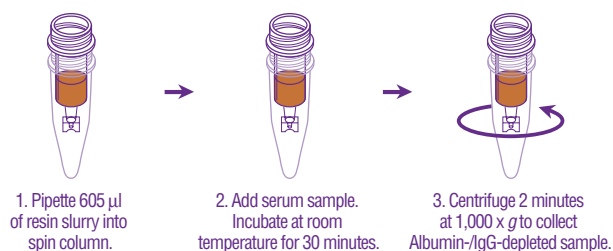

Figure 15. Protocol for the ProteoSeek™ Antibody-Based Albumin/IgG Removal Kit (Product # 89876).
- **Excellent for 2-D applications** – allows the researcher to study less abundant proteins without interference from albumin (Figure 15) or processing buffers